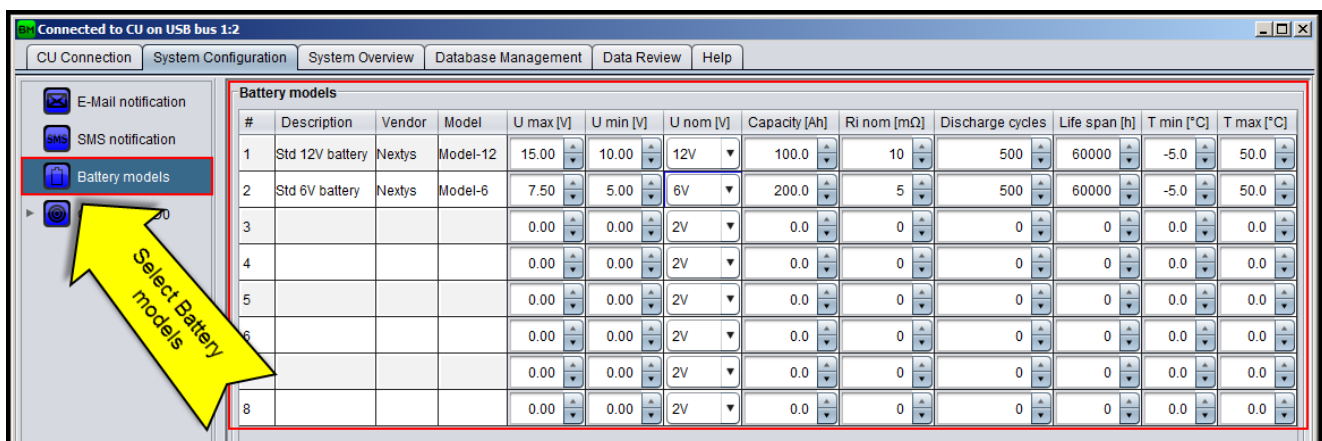

Figure 23: Battery's models configuration
10. Select Battery models as shown on Figure 23.
11. Up to 8 different battery models can be described for a system, one for each row in the table (see Figure 23). Fill in the following fields for every different battery model: